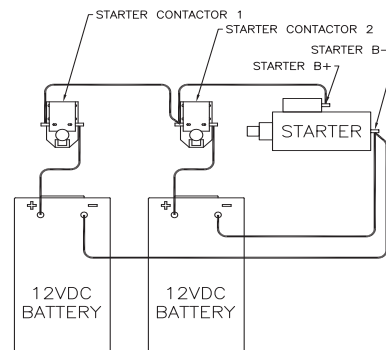

Figure 3-3 Series battery connection 12 VDC
1. As shown in Figure 3-3 or Figure 3-4, install the Battery Cable Kit or equivalent customer-sup-